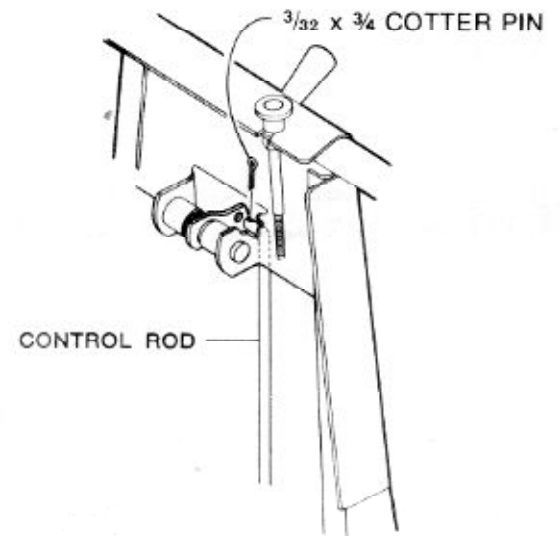

FIG. 9
- C. Insert the hooked end of control rod through the hole provided in the control lever on the back-side of handle, Fig. 9, and secure in place with a $\frac{3}{32} \times \frac{3}{4}$ cotter pin*.